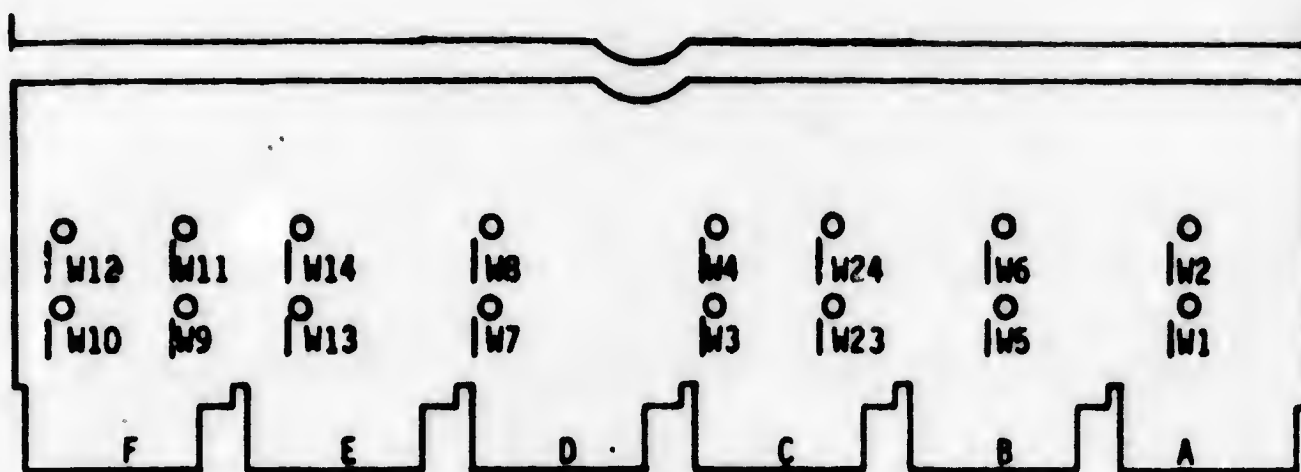

FIGURE 1 M8232
6.1.1 Remove the SBI far end terminator (M9043) from the CPU's that will be used in the Multiport configuration. Reference figure 1.
6.1.2 Install the interface backplane (E-IA7016512) which is a four (4) slot backplane in the space where the SBI far end terminator was located. This is done for each of the CPU's in the configuration. Reference figure 1.
6.1.5 Connect six (6) SBI jumper cables from the last device in the CPU cabinet to the interface backplane. Reference figure 1.